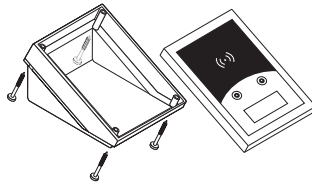

Fig. 3
- Open the Info Terminal (Fig. 3)